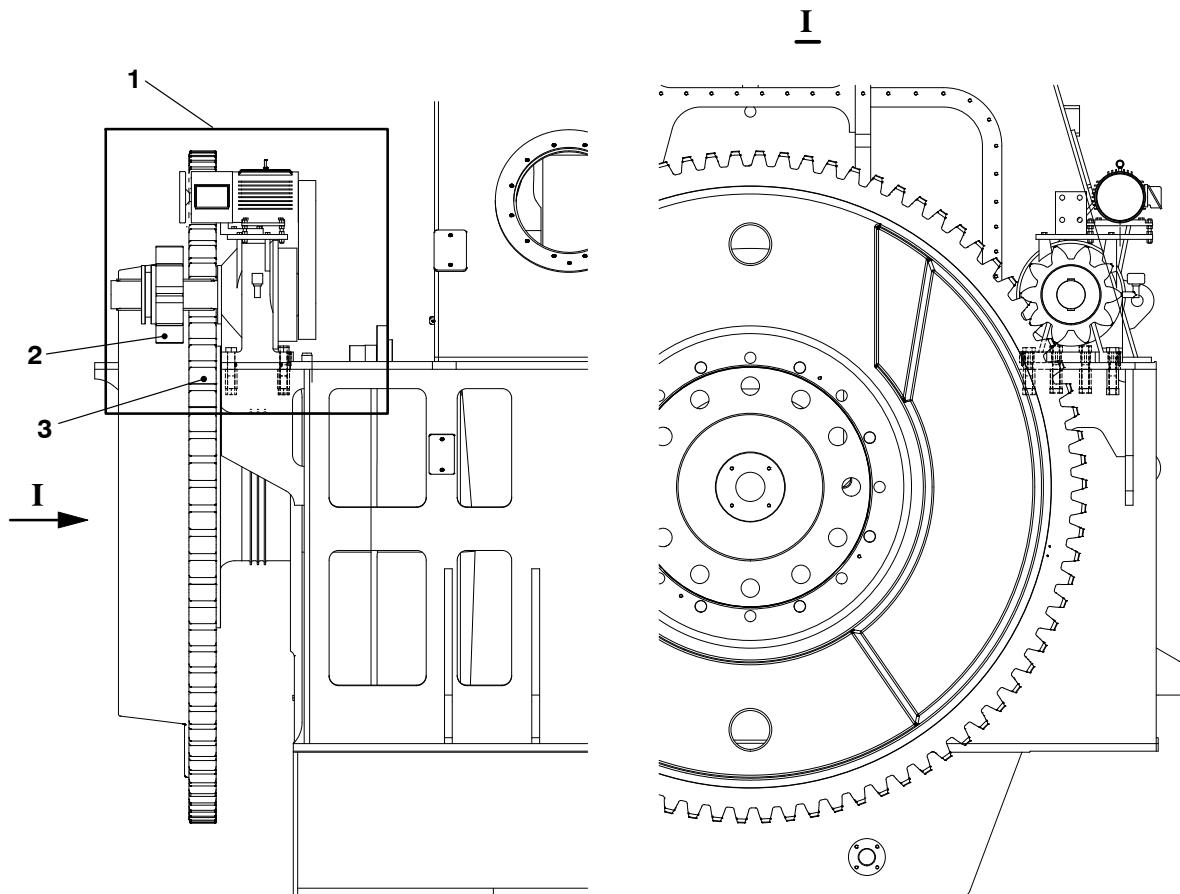

Fig. 1
Before you operate the turning gear (1, Fig. 1) you must do a check of the condition of the tooth flanks on the pinion (2) and the flywheel (3). Also you must make sure that lubricant is applied to these components.
Apply a very thin, equal layer of lubricant to the tooth flanks of the pinion (2, Fig. 1) and the flywheel (3). Refer to Table 1 and Table 2.